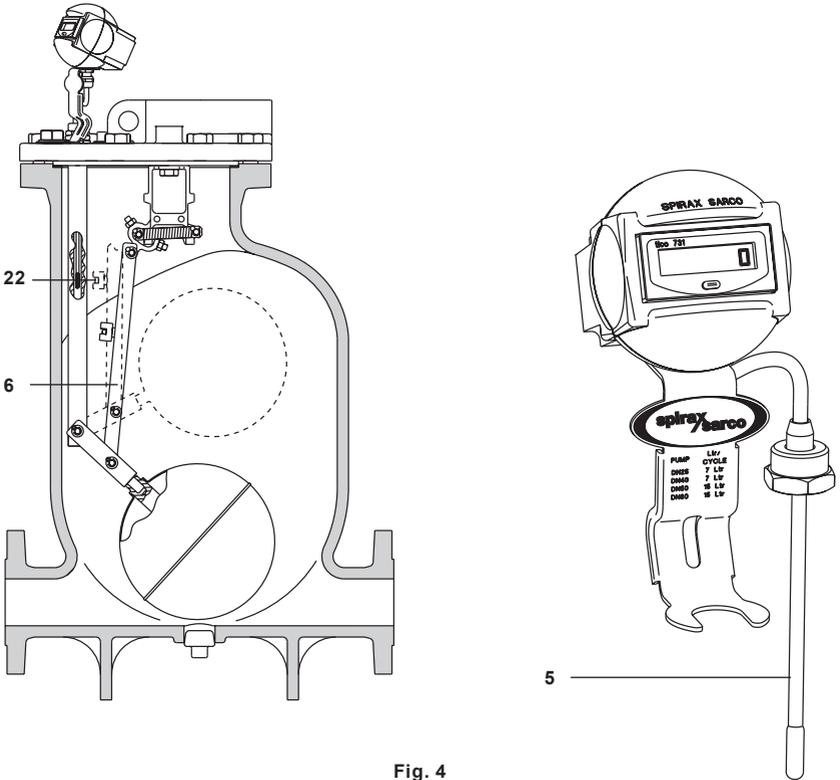

Fig. 4
**EPM1** contains a digital counter connected to a sensor (item 5) which is located in the MFP14. An actuator (item 22) is mounted to the connector rod (item 6, see Fig. 4). As the condensate level varies within the MFP14, the actuator sweeps past the sensor causing the counter display to index.